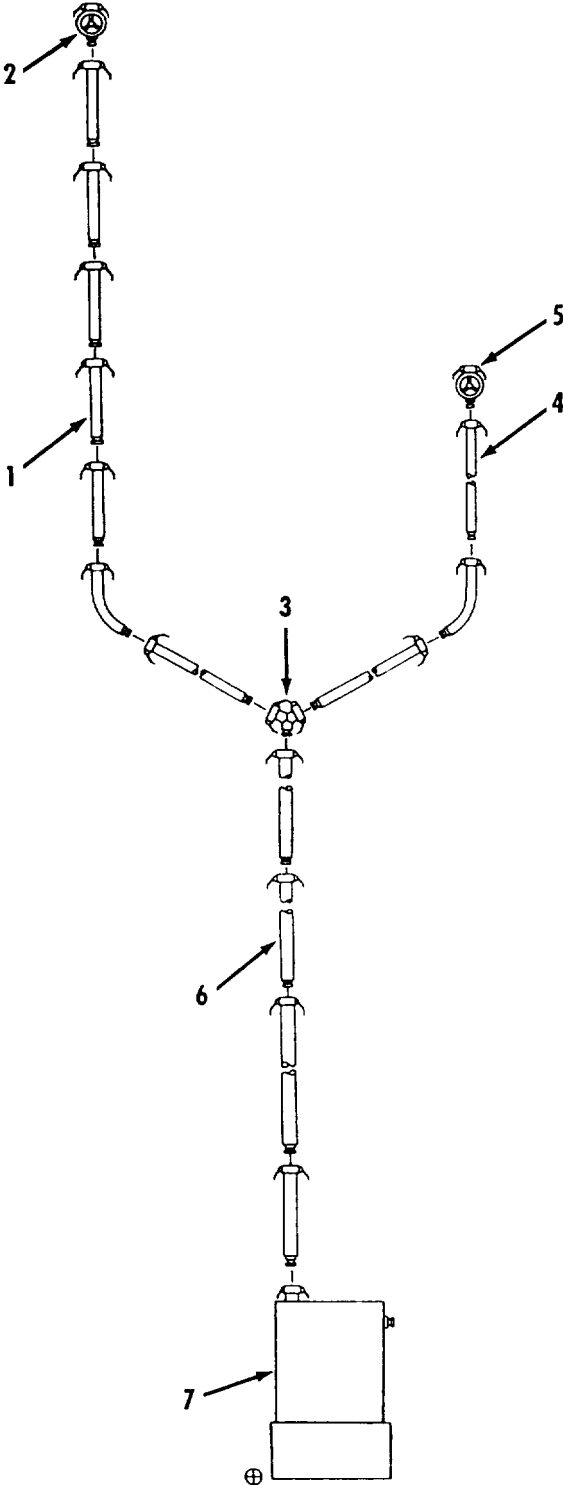

Figure 2-14. Fuel System - Primary 600 GPM Pump Input.
- f. Fuel System Primary 600 GPM Pump Input. Refer to figure 2-14.